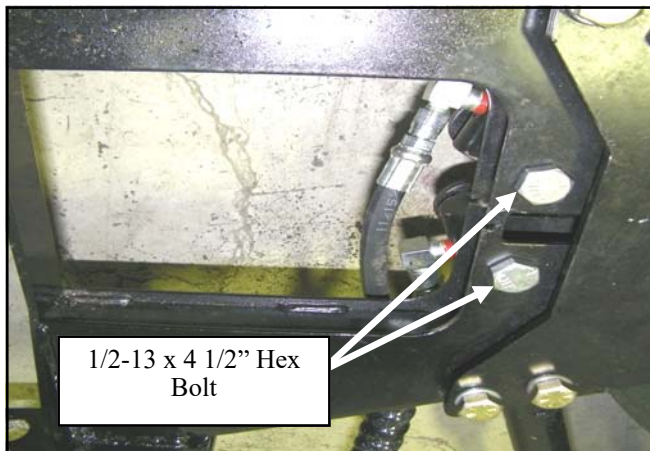

Fig. 9.2 Angle Cylinder
- 9.2 Place the fixed end of each angle cylinder into its respective bracket under the plow A-frame making sure that 90° Elbow is in orientation shown. Insert 1/2-13 x 4 1/2" bolts through the plow A-frame, the stationary ends of the angle cylinders, and the lower cylinder brackets of the A-frame. Fasten and tighten using 1/2-13 lock nuts. See Fig. 9.2. (Do not over tighten, 1 to 3 threads should be showing past nut)